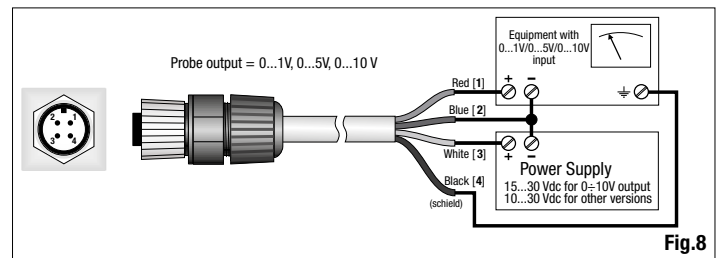

Fig.8
- LP PYRA 10 AV to be connected to a power supply and a multimeter, as shown below (Figure 8), the load resistance for reading the signal must be $\geq 100 K\Omega$: